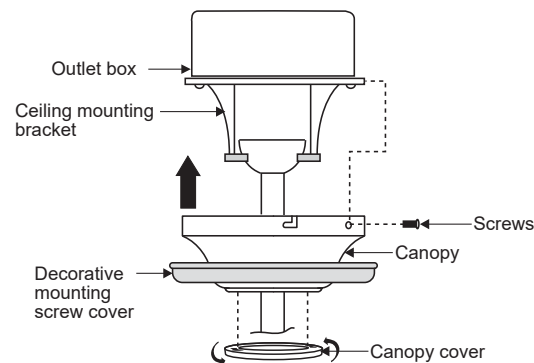

Fig. 15
Step 2. Slide the canopy up to the ceiling and attach the canopy to the ceiling mounting bracket using 4 screws at the top edge of the mounting bracket. Insert each screw through the canopy mounting hole and into the mounting bracket. Slide the canopy cover up to the canopy and rotate clockwise until tight. Tighten all screws securely. (Fig. 15)